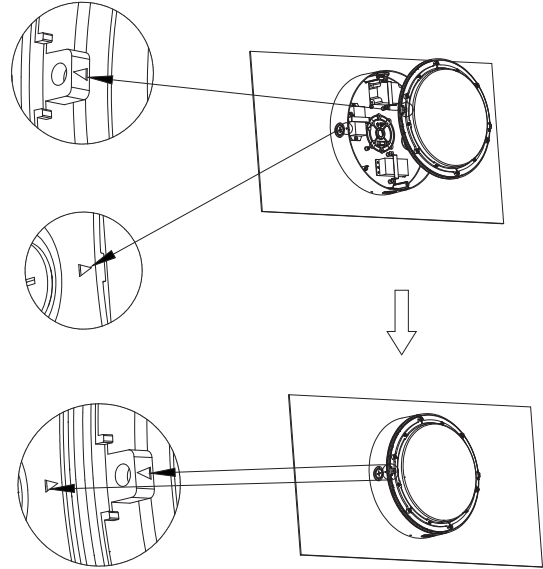

Fig.15
7. Align the triangle on the body with the Bottom Cover. (Fig.15)